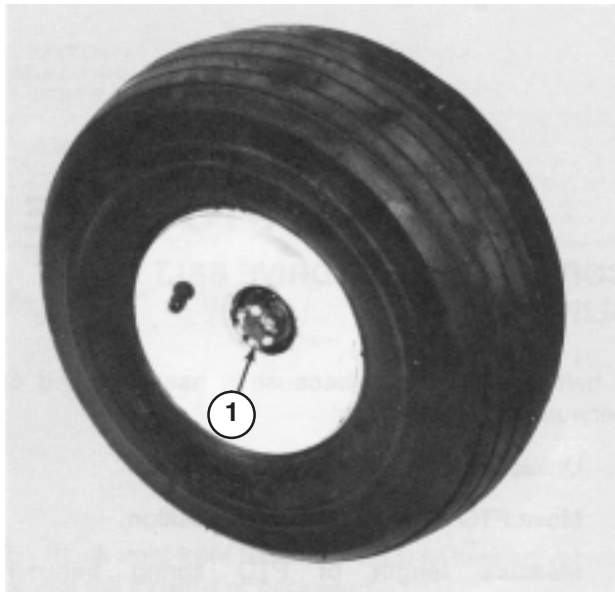

Figure 56
2. Remove dust cap from end of wheel spindle. Also remove cotter pin retaining slotted nut in place (Fig. 56).